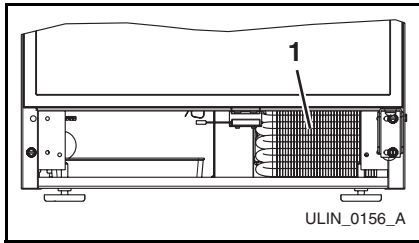

Figure 15
4. Clean the condenser coil (**Figure 15, 1**) using a using a soft brush with a “combing” action or vacuum cleaner. Do not touch the condenser coil.